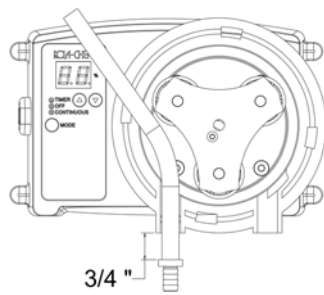

Figure 2
- 4) To install new Pinch Tube, Toggle the MODE Button intermittently between TIMER, OFF and CONTINUOUS positions to move Roller to position as shown in Figure 2 then switch OFF.
- 5) Lubricate Pinch Tube Assembly as noted in OPERATION section 4.1. Lay inlet end (without clamp) in inlet port on left with about  $\frac{3}{4}$ " of Pinch Tube protruding from housing. See Figure 2.